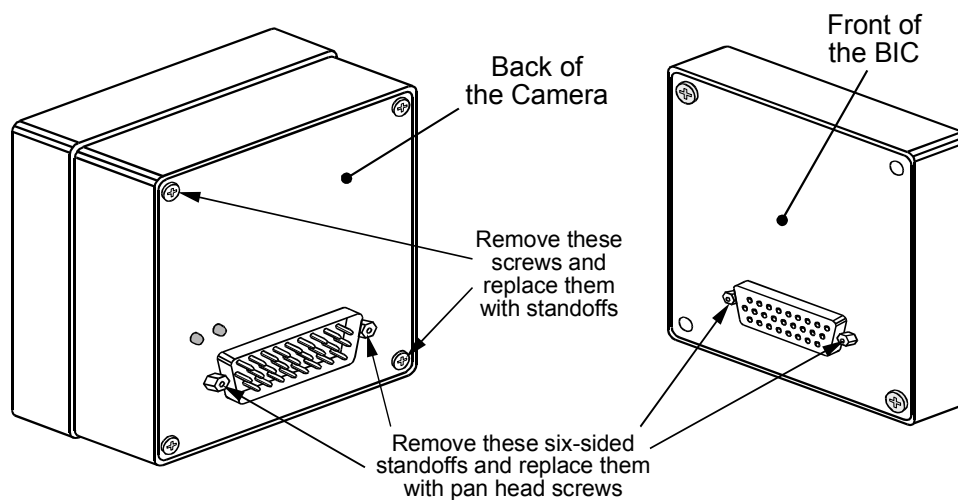

Figure A-11: Changing the Screws
1. Remove the six-sided standoffs on each side of the 26-pin plug on the back of the camera and on each side of the 26-pin receptacle on the front of the BIC (see Figure A-11). Replace the standoffs with pan head screws from the BIC installation kit.
2. Remove two screws from the back of the camera as shown in Figure A-11. Replace the screws with six-sided standoffs from the BIC installation kit.